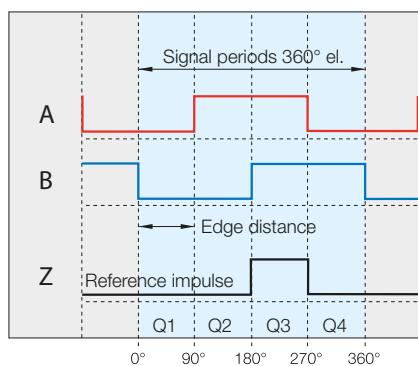

Fig. 6-1: Digital output signals for forward movement
The position of the Z signal may be different (Q1 to Q4, see Fig. 6-1). However, it is always located in the correct physical position and is always one increment wide.
- A pole-periodic reference signal (period = 10 mm, reference signal width = edge distance, Fig. 6-1). If several reference signals must be transferred, an external selection switch must be mounted at the desired reference point signal.